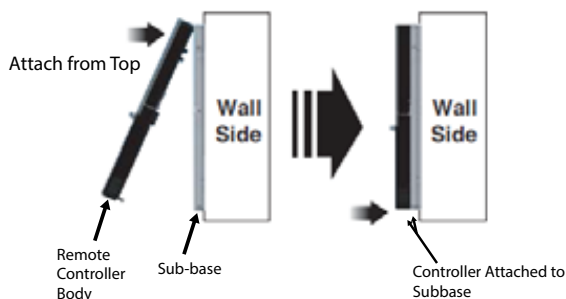

Figure 42: Attaching Controller to Sub-base and to Wall
12. Attach the controller body to the subbase. First insert the top edge and lastly the bottom edge. Gently push on the frame of the controller body along the bottom edge until you hear it snap into place. Gently pull along the bottom edge to verify it is properly seated (Figure 42).